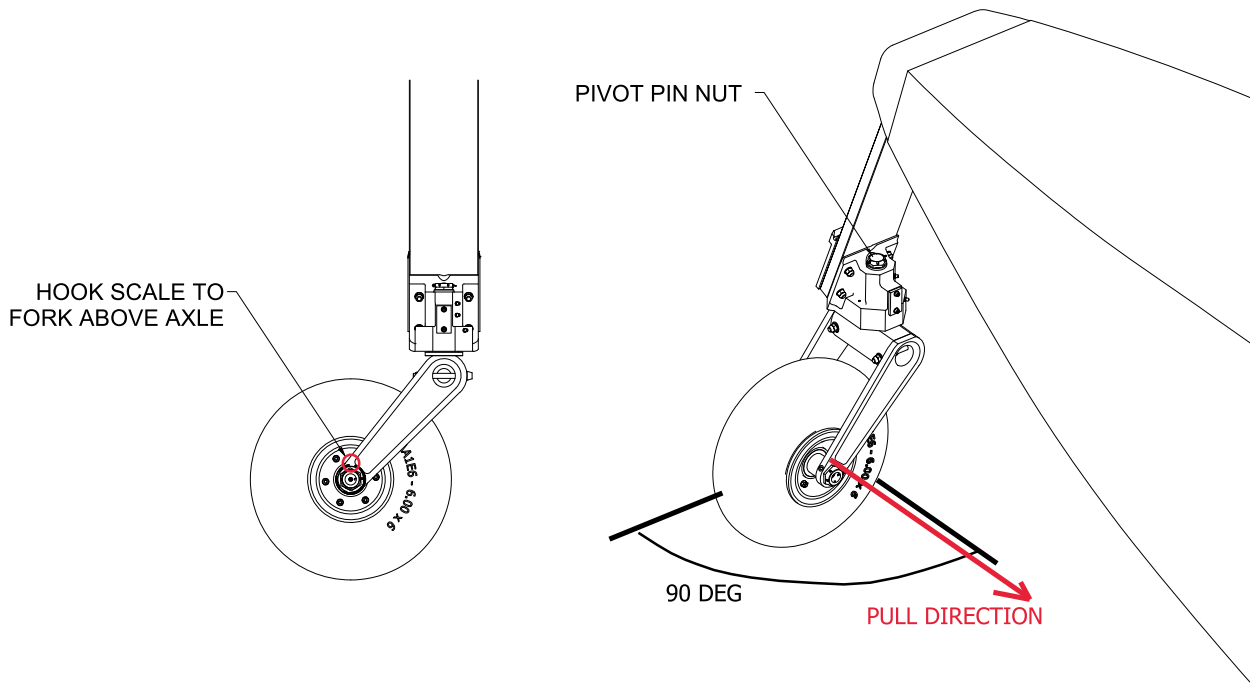

FIGURE 2.12 NOSE GEAR PIVOT RESISTANCE TEST
2. Check and adjust setting of pivot pin retaining nut atop the pivot block assembly (see Figure 2.12). This is pre-set and marked during factory assembly, but on-aircraft conditions or a working-in period can have an effect:
- b. If shimmy continues, add washers as needed between the centering spring and retainer. Refer to parts manual for exploded view of pivot block assembly 1012007. Added washers are to be either: (1) NAS1149F0832P, (1) NAS1149F0863P, or both combined.